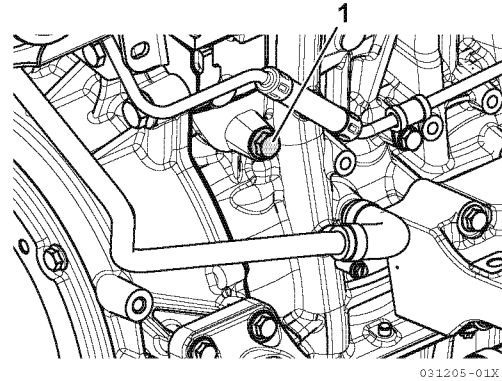

Figure 4-10
5. Remove drain plug (1, **Figure 4-10**) from the engine block. Allow coolant to drain into a container of appropriate size.